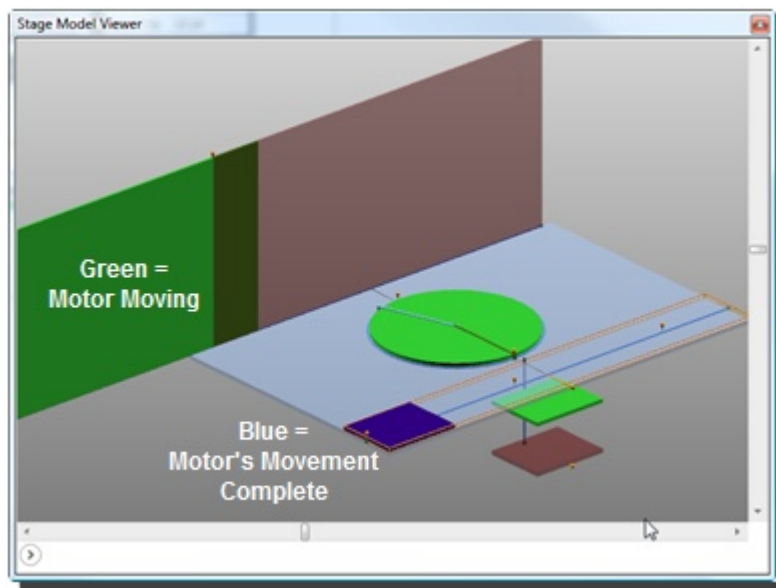

Figure 252
2. The motor(s) that are moving in the Cue change to green inside the **Stage Model Viewer** (Figure 252).